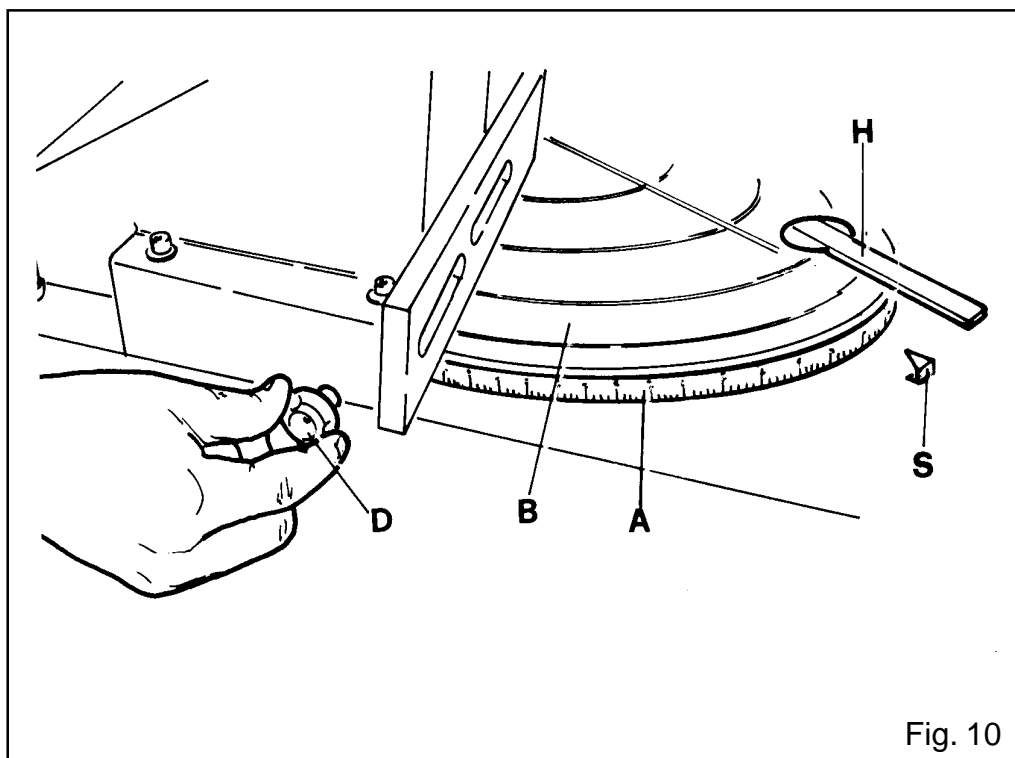

Fig. 10
The machine is equipped with a graduated sector A (Fig.10), placed on the rotating table B (Fig. 10), on which all cutting gradations from left 90° to right 90° are reported.
The adjustment is effected by means of the special arrow C (Fig.10), while the blocking is effected by handle D (Fig.10).
- Lift lever H (Fig. 10) moving it until arrow C (Fig. 10) indicates the expected grades for the cutting.
- Block the rotating table B (Fig. 10) by means of the special handle D (Fig.10).